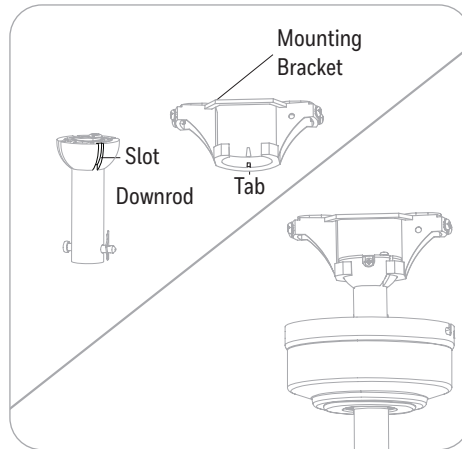

Figure 3.5
5. Lift the downrod into the mounting bracket. Rotate the downrod until the tab in the mounting bracket is seated in the slot in the downrod ball (Figure 3.5). **WARNING:** Failure to align the slot in the ball with the tap on the mounting bracket may cause the fan to fall, which could result in injury or death.